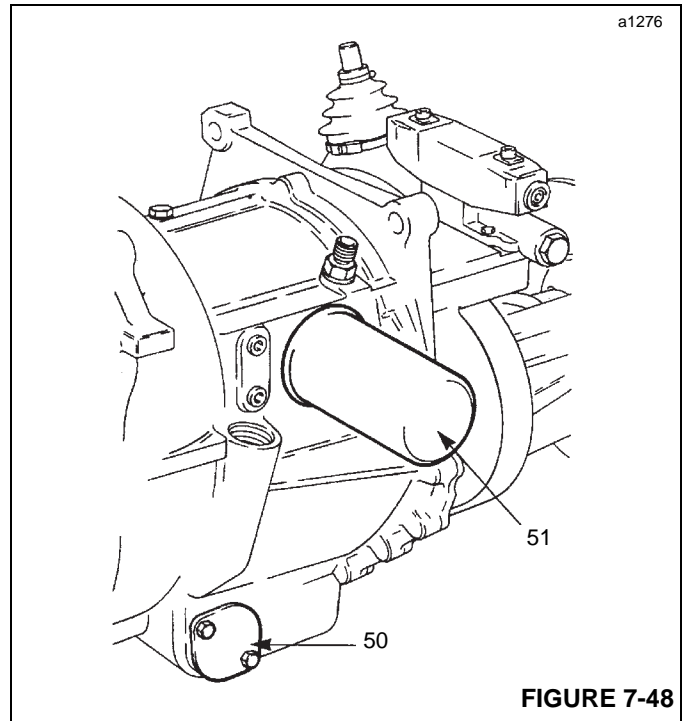

FIGURE 7-48
50. Using a new gasket, install suction strainer (50, Figure 7-48). Apply Loctite 243 to bolts and tighten to a torque of 10 Nm (7 lb-ft).
51. Install a new filter (51).